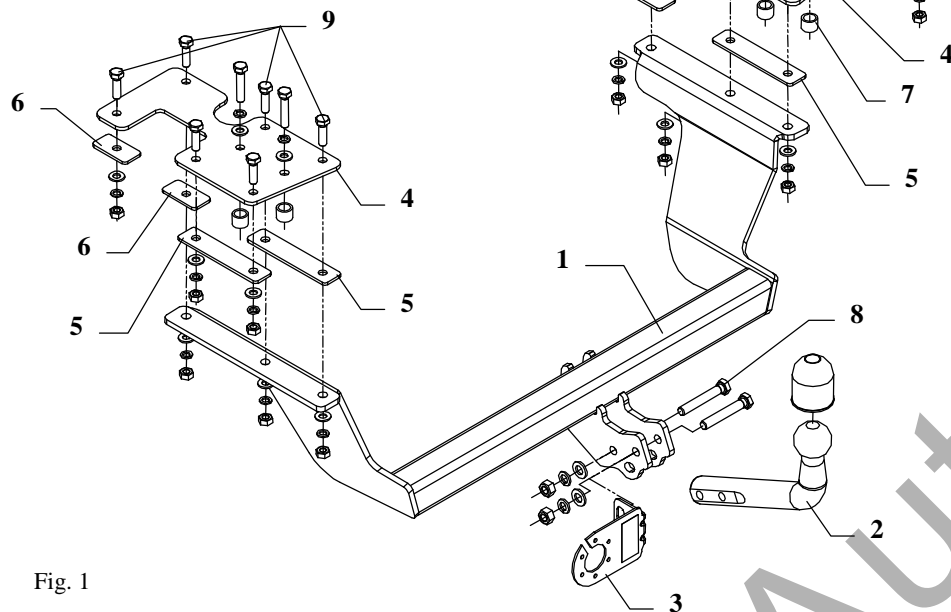
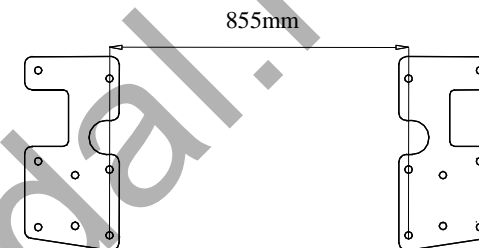

Fig. 1
Fig. 2
- Apply fish-plates (pos. 4) such way, so holes, in which enter bolts M10x1,25x50mm (pos. 10) overlapped on holes, which were previously unscrewing bolts fastening arms of the bumper. Then marked the contour of fish-plates and after this put aside fish-plates – inside contours remove the anti-noise layer. Put fish-plates (pos. 4) in this way, so holes for bolts M10x1,25x50mm (pos. 10) agree with holes after disassembly of towing hitch brackets. Mark contour of the fish—plates, next take them of and remove protective layer from inside of contour.
- On holes fastening arms of the bumper put distance sleeves L=16mm (pos. 7). Then apply again fish-plates (pos. 4) and fix with bolts M10x1,25x50mm (pos. 10) as showed on the fig. 1.
- Attention! Make sure whether fish-plates lay as one showed on the fig. 2.**
- By remaining holes of fish-plates (pos. 4) drill through holes $\varnothing 10,5\text{mm}$. Then into all holes insert bolts M10x35mm (pos. 9).
- From the bottom of the car on protruding bolts put distance washers (pos. 5 and 6) and the main bar of the towing hitch (pos. 1) and fix as showed on the fig. 1. .
- To so prepared towing hitch fix tow-ball (pos. 2) and socket plate (pos. 3) by bolts M12x75mm (pos. 8) from accessories.